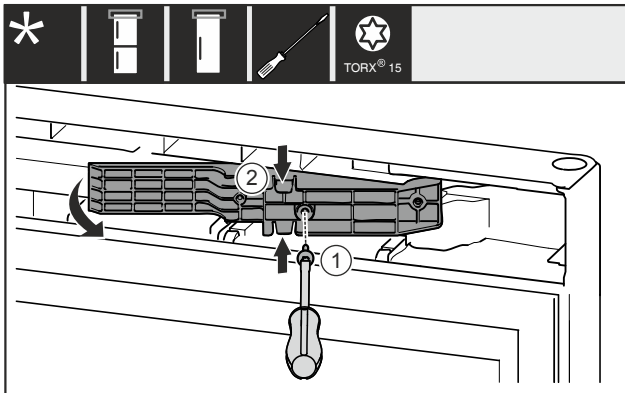

Fig. 13 *
- Remove the screw *Fig. 13 (1)**.
- Gently press the top and bottom of the adapter piece *Fig. 13 (2)* together and pull it out.*